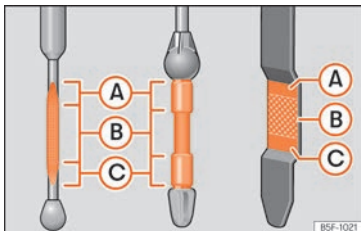

Fig. 311 Engine oil dipstick.
- Then pull it out once more and check the oil level »» Fig. 311. Top up with engine oil if necessary.
- When the oil level reaches at least zone » **Fig. 311 (B)**, unscrew the engine oil filler cap carefully » .
If the oil level is above area » **Fig. 311 (A)**, do not start the engine. This could result in
The oil level must never be above zone » **Fig. 311 (A)**. Otherwise oil can be drawn in through the crankcase breather and leak into the atmosphere via the exhaust system.